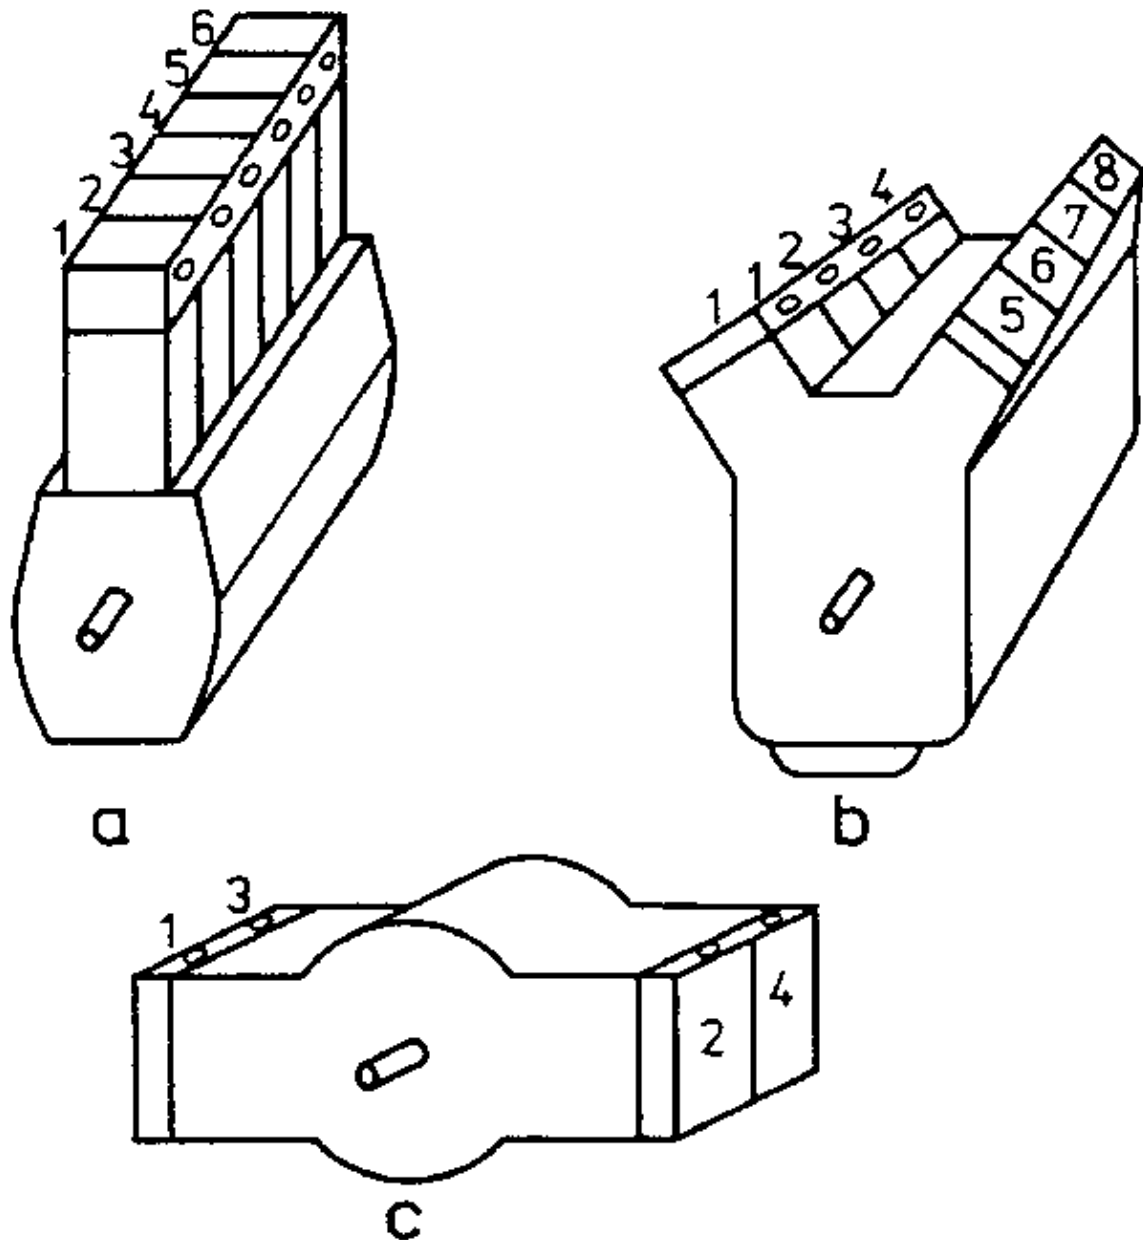

Figure 1/1 Types of engines according to the arrangement of the cylinders
5. According to the cylinder arrangement: (Fig. 1/1)